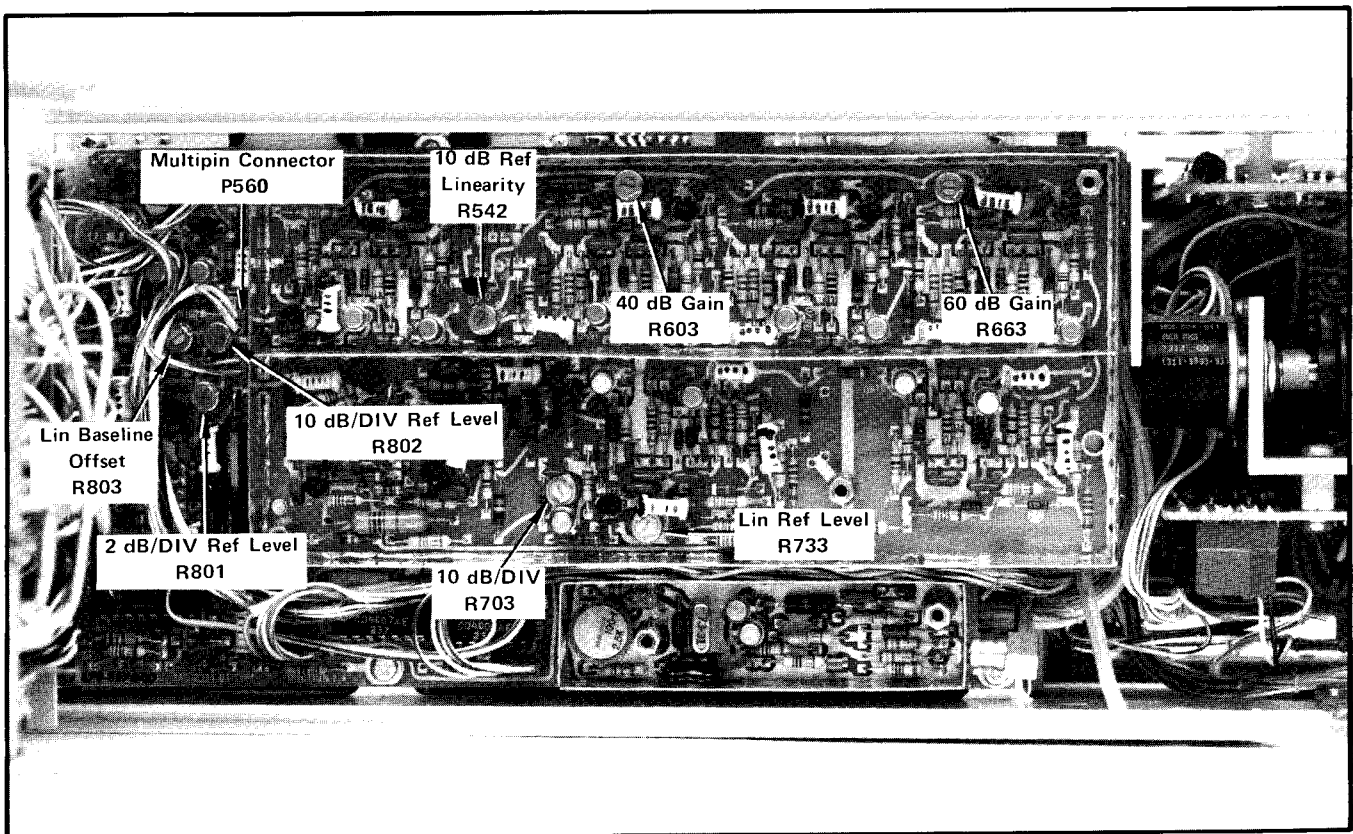

Fig. 4-4. Calibration adjustments and test points on the Function IF board.
Pull the harmonica (multipin) connector P560, on the Function IF circuit board (Fig. 4-4).
b. Adjust the Lin Baseline Offset R803 (Fig. 4-4) clockwise, from a fully ccw position to a point where the trace stops moving down. (Do not adjust past this point).
b. Apply a 10 MHz signal at  $-10$  dBm, from a calibrated signal source, through appropriate adapters (BNC female to SEAELECTRO female, SEAELECTRO male to male adapter, and SEAELECTRO female to harmonica connector) to P560. (Fig. 4-4). Part numbers for these adapters are provided under Equipment Required List. If an accurate 10 dB, 50  $\Omega$  step attenuator is available, connect it in series with the signal source.
c. Adjust the 2 dBm/Div Ref Level R801 (Fig. 4-4) so the trace is at the 5th graticule line down from the top.
g. Adjust Lin Ref Level R733 (Fig. 4-4) so the trace is at the top graticule line.
i. Adjust the 10 dB/DIV Ref Level R802, (Fig. 4-4) so the trace is 7 divisions down from the top graticule line.
j. Increase the signal input level so it is  $-10$  dBm. Adjust the trace so it is 1 division from the top graticule line with 10 dB/DIV R703 (Fig. 4-4).
k. Increase the signal level to 0 dBm, then adjust the 10 dB Ref Linearity R542 (Fig. 4-4) so the trace is at the graticule line.
o. Adjust the 40 dB Gain R603 (Fig. 4-4) so the trace is at the reference level or top of the graticule.
r. Adjust the 60 dB Gain R663, (Fig. 4-4) so the trace is at the reference level.